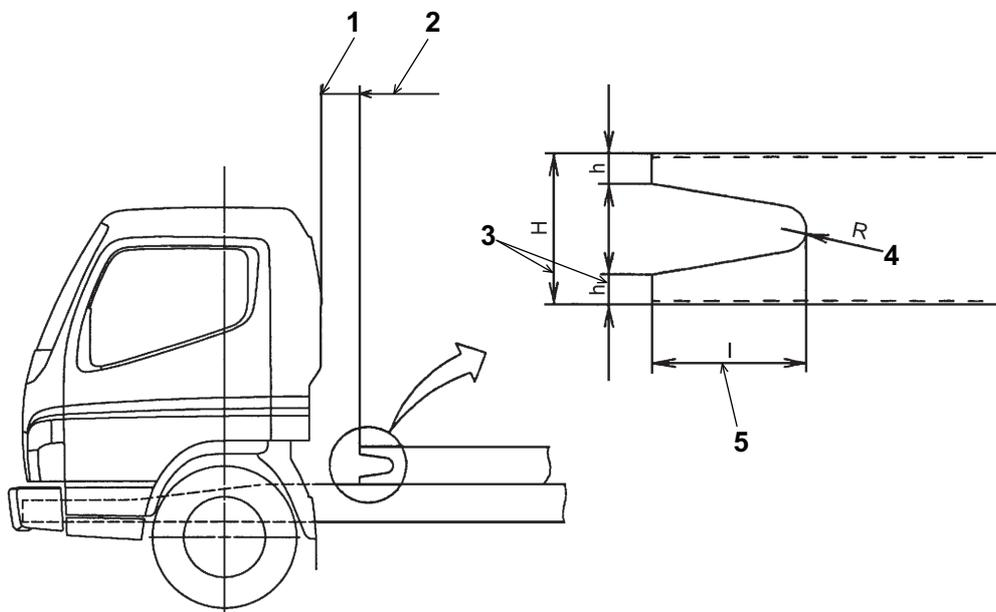
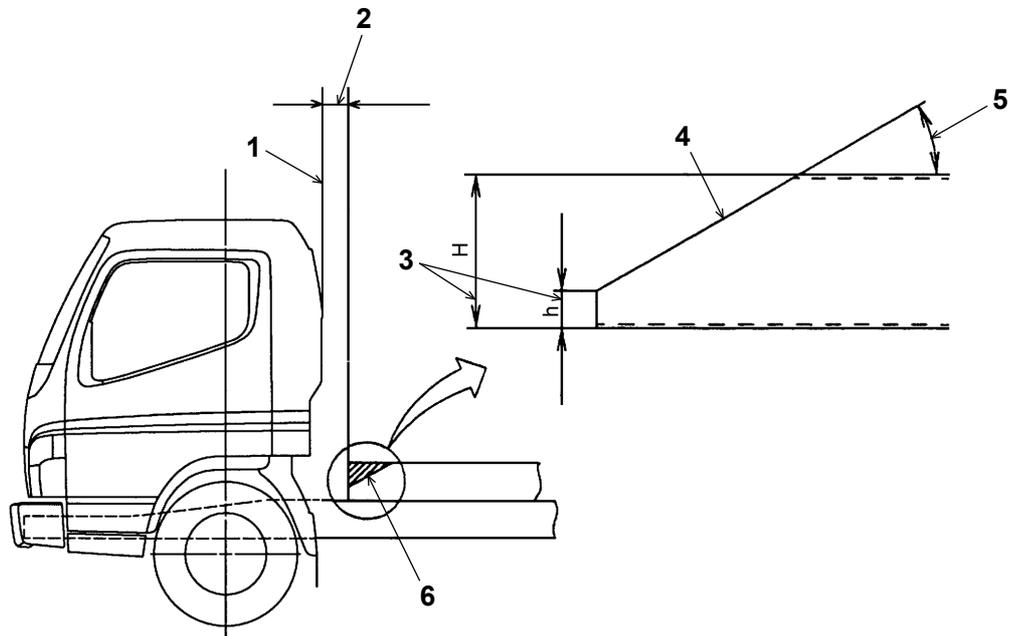
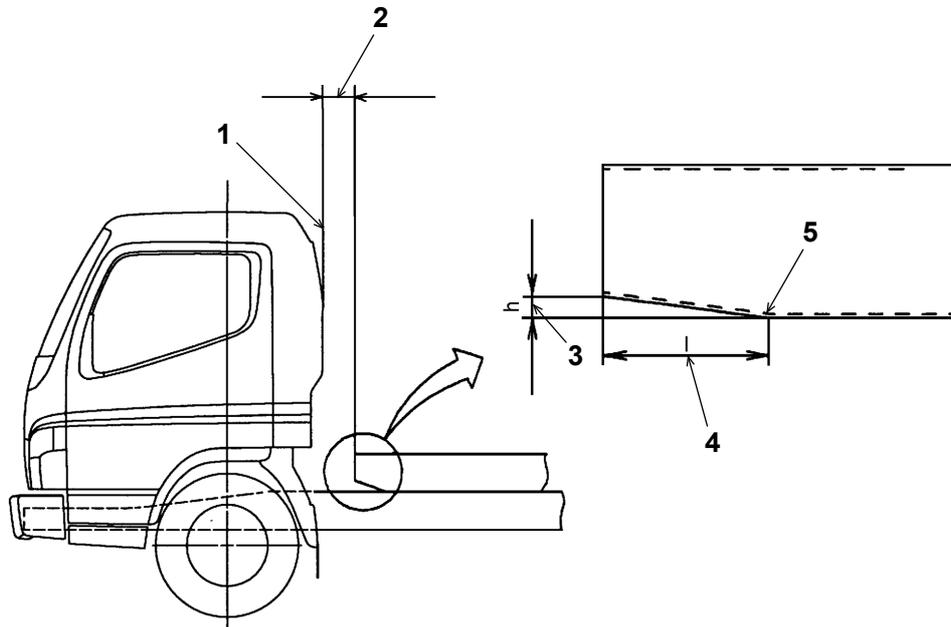

Fig. 2
Fig. 3
Fig. 4
- Install the mounting frame having the shape as shown in Fig. 2 to gradually reduce the stress concentrations in the front end.
(b) The shape of the mounting frame front end as shown in Fig. 2 is highly desirable. However, if there is enough room behind the cab, the shape as shown in Fig. 3 is also acceptable.
(c) If it is difficult to shape the front end of the mounting frame as described in Fig. 2 and Fig. 3, cut it to the shape as shown in Fig. 4 before installation.